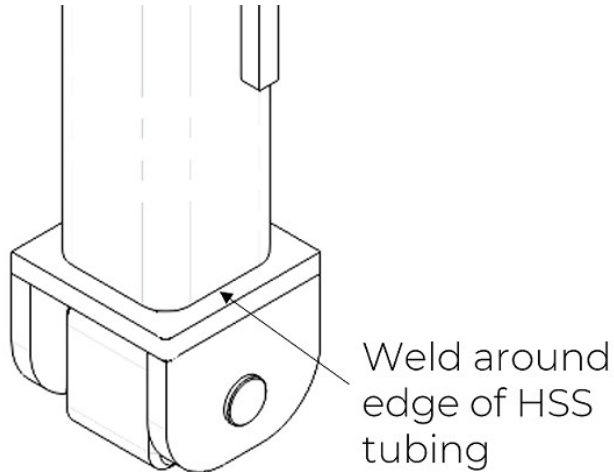

Figure 7: Reattaching bushing bracket to HSS tubing.
7. Weld around the HSS tubing with 6mm (1/4") fillet welds, as shown in Figure 7 below.